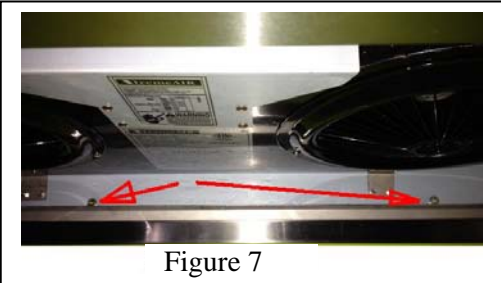

Figure 7
10. Secure the hood by using 1.5" – 2.0" wood screws (the screws are not provided) screw through the back of hood to the studs (use stub finder to find the stud. Figure 7